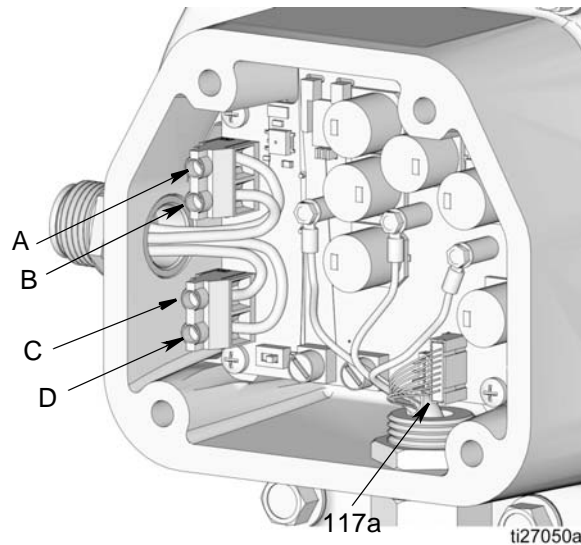

FIG. 67
- Disconnect sensor cable (117a) from motor control board (FIG. 67).
- Disconnect source to power input (A and B) and pump control connections (C and D) (See FIG. 67 and Control Panel, page 13).
2. Connect source to power input (A and B) and pump signal connections (C and D) (FIG. 67 and A,B,C,D, page 13). Torque to 5.5 - 7 in. lbs (0.62 - 0.79 N.m).